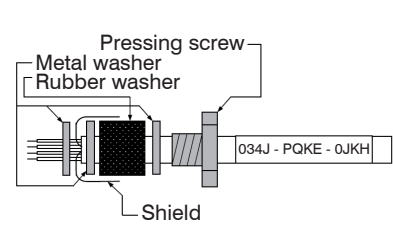

Fig. 10 Cable installation
- Push the compression screw, washers and the cable screw connection's rubber seal one after another onto the prepared cable end according to the figure, see Fig. 10.